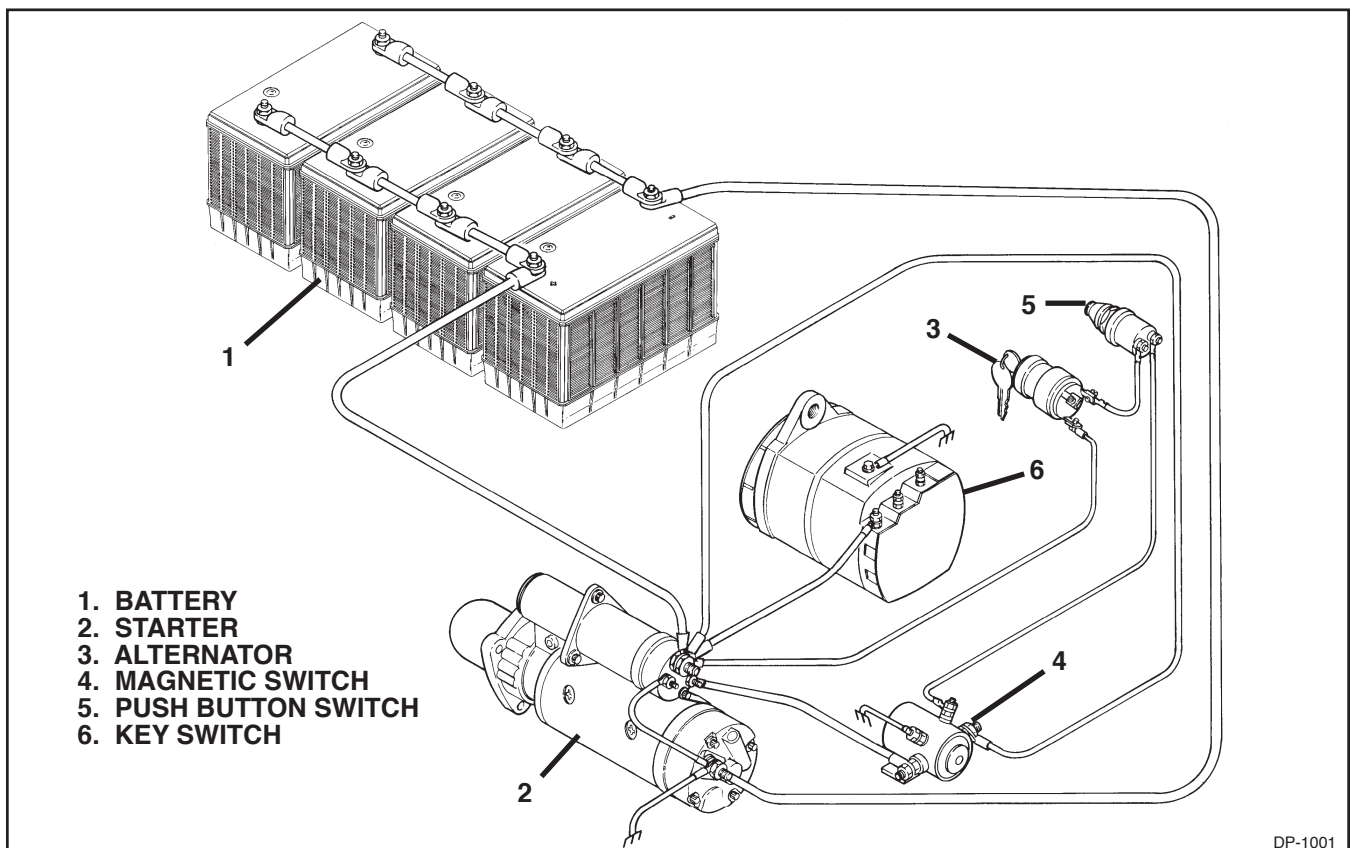

Figure 1-1. Heavy Duty Electrical System
**1-10. SUB-CIRCUITS.** (See Figure 1-1) Because of vibration, corrosion, temperature changes or damage, the performance of wiring, connections, and secondary components as well as the function of the starter and alternator can deteriorate. This in turn can cause malfunctions within the starting and charging systems. For the purpose of testing, wiring and components are broken down into four circuits that must be tested. These are:
**1-25. THE BASIC HEAVY-DUTY ELECTRICAL SYSTEM.** Today's basic heavy-duty electrical system (See Figure 1-1) consists of batteries (usually 3 or 4 connected), a starter, an alternator, a magnetic switch, an ignition switch, a pushbutton switch and the required wiring. The batteries provide the high current required by the starter. The magnetic switch controls the battery current to the starter solenoid. The ignition and pushbutton switches activate the magnetic switch which in turn energizes the starter. If all functions work properly, the engine will crank.